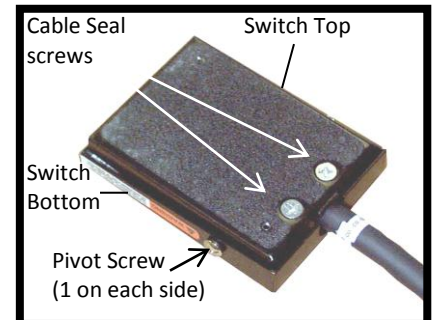

Figure 27: R/L Switch Pivot & Cable Seal Screws
4. With a Phillips screwdriver, remove the two pivot screws on the sides of the R/L switch (Figure 27). Do not lose the lockwashers on the screws.
6. With a Phillips screwdriver, remove the two cable seal screws (Figure 27).
12. Secure the switch halves together by installing the two pivot screws/lockwashers (Figure 27).